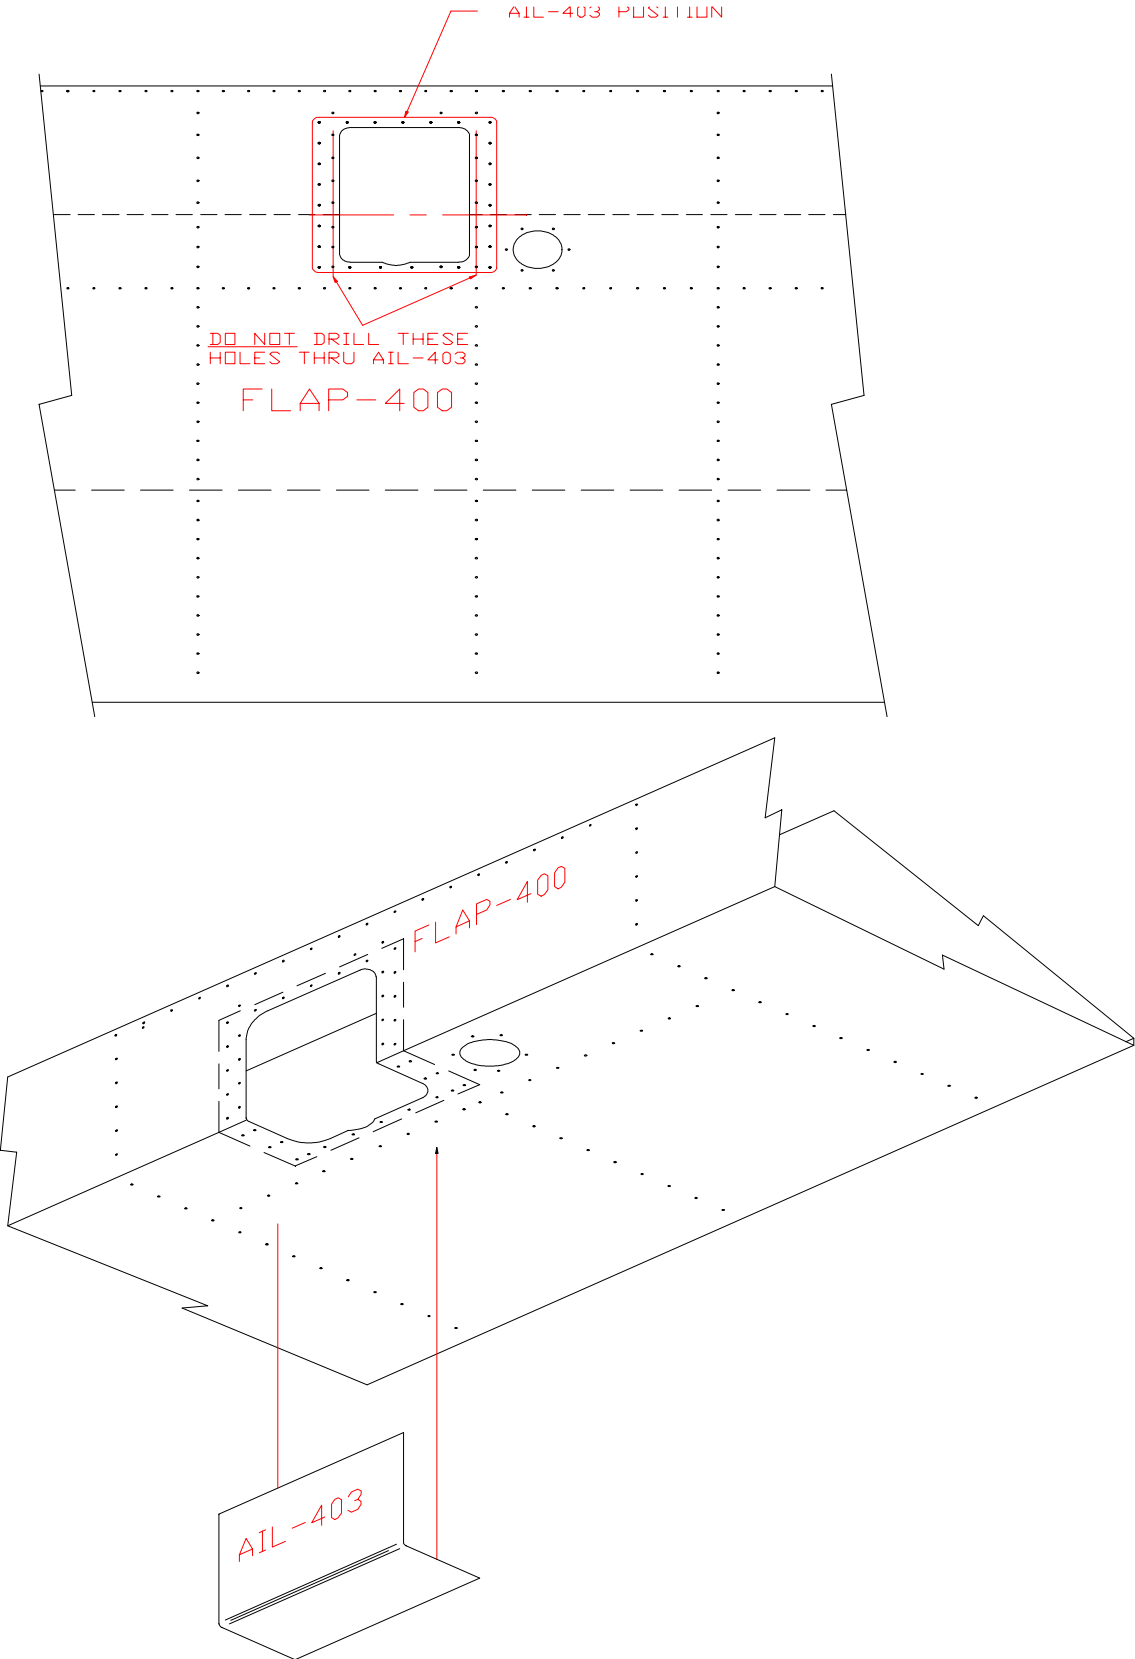

Figure 6.3.1
1) Before the flap skin can be installed, the AIL-403 Center Hinge cover must be prepared. Position it firmly over the center hinge cut out on the outside of the flap skin as shown in figure 6.3.1. Using the flap skin as a drill guide, back drill through the AIL-403 . Drill #40, cleco as you go.